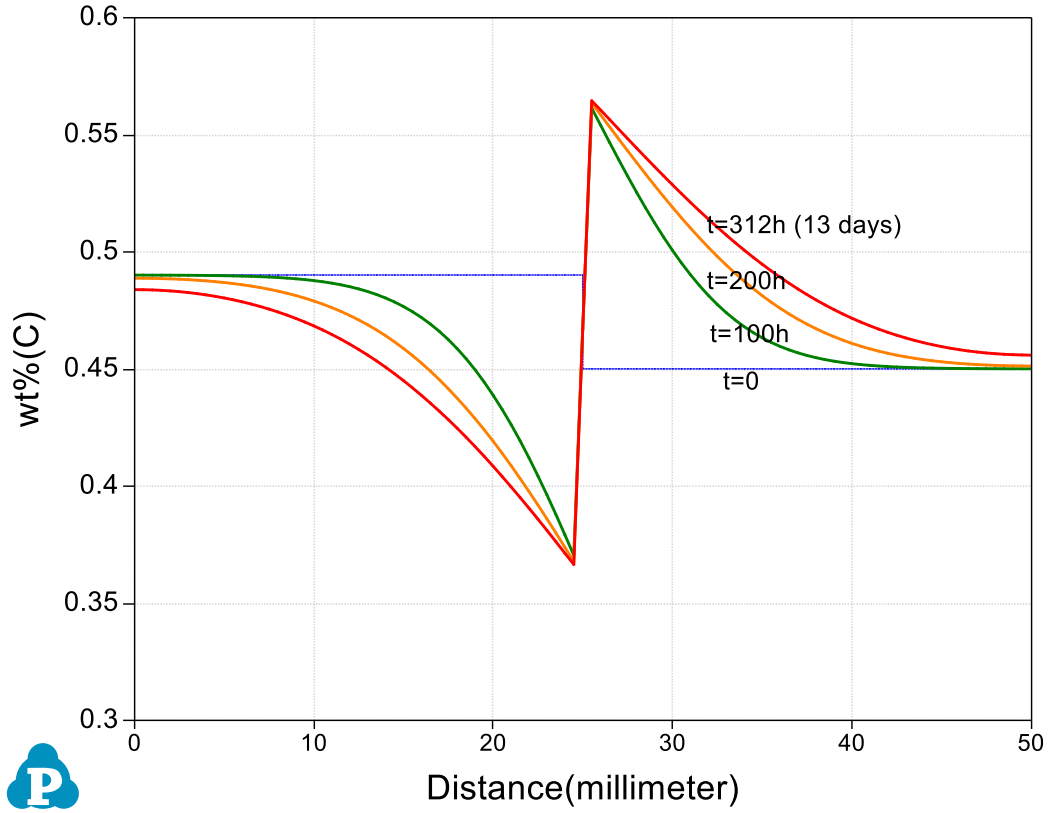

Figure 4.11.4: Composition profile of Carbon.
- Set the scale of the Y axis to be 0.3-0.6 (wt%). Remove composition profiles of Fe and Si. The calculated plot is displayed in Figure 4.11.4. Add text and change graph appearance following the procedure in Pandat User’s Guide 2.3.1;